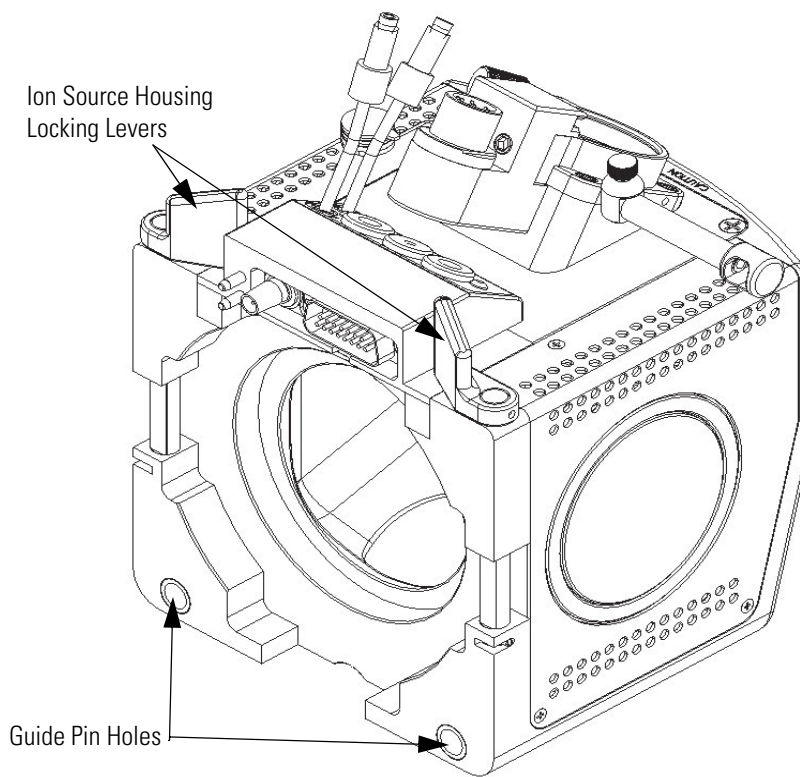
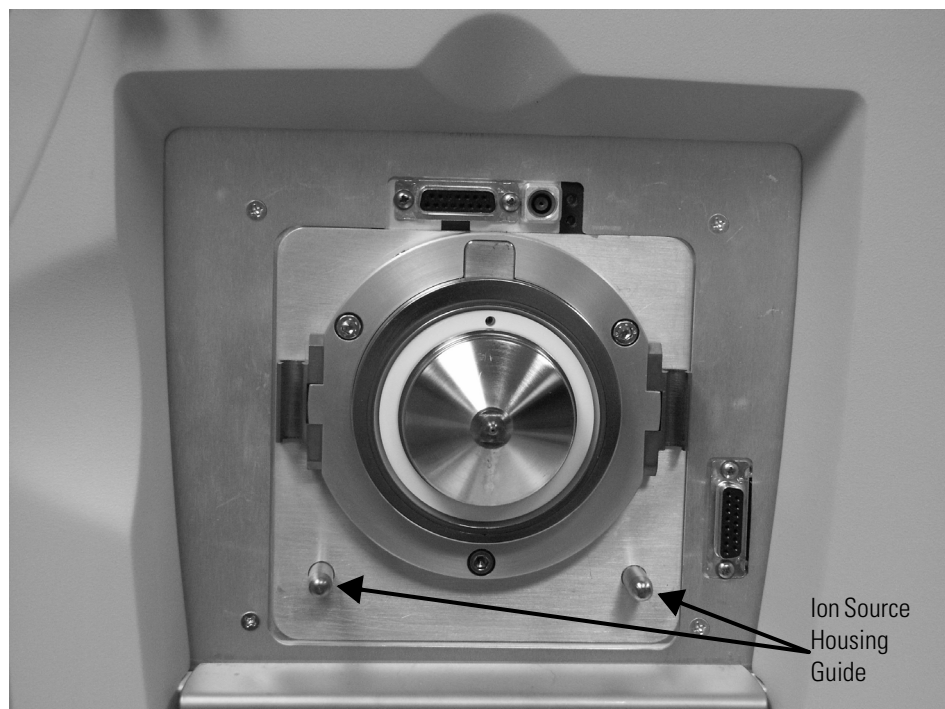

Figure 11. Rear view of the Ion Max-S ion source housing
Figure 12. Ion source mount showing ion source housing guide pins
- d. Remount the ion source housing per the Section “Installing the Ion Max Ion Source Housing” on page 34 and Figure 11. Or, place the ion source housing in a safe location for temporary storage.
1. Carefully align the two guide pin holes on the rear of the ion source housing with the ion source housing guide pins on the MS detector, and carefully press the ion source housing onto the ion source mount. See Figure 11 and Figure 12.